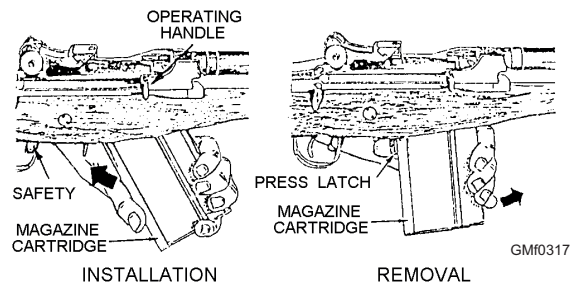

Figure 3-17.—Installation and removal of magazine.
If a magazine is in the rifle, press the magazine latch (fig. 3-17) and remove the magazine. Pull the operating handle all the way to the rear and check to see that the weapon is free of ammunition. Then ease the operating rod forward to the locked position and move the safety to the rear (SAFE position).
To load a full magazine into a rifle, insert the front end of the loaded magazine well into the front catch until the front catch snaps into engagement, then pull rearward and upward until the magazine latch locks the magazine into position (fig. 3-17).
2. Grasp the magazine with your thumb on the magazine latch, and squeeze the latch to release it. Push the magazine forward and downward to disengage it from the front catch, and then remove it from the magazine well, as shown in the right-hand view of figure 3-17.